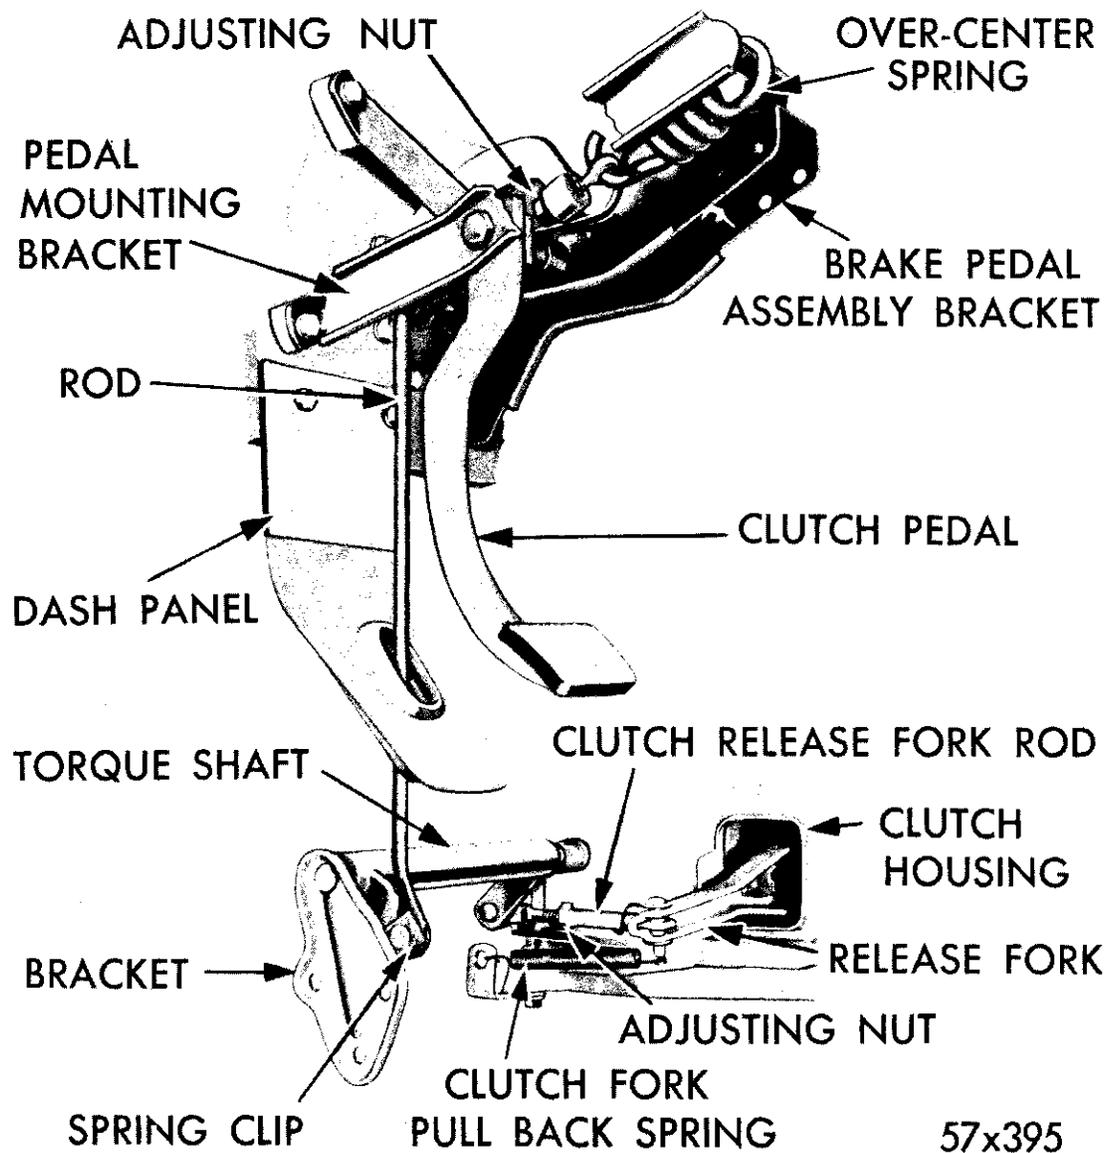
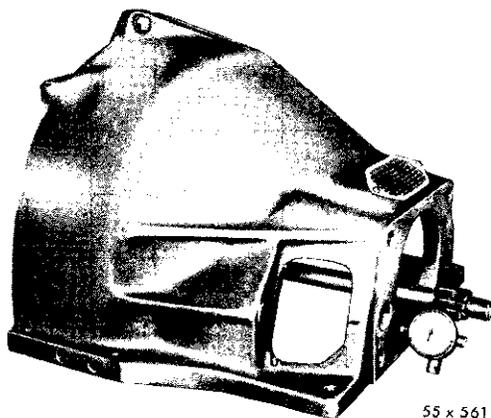
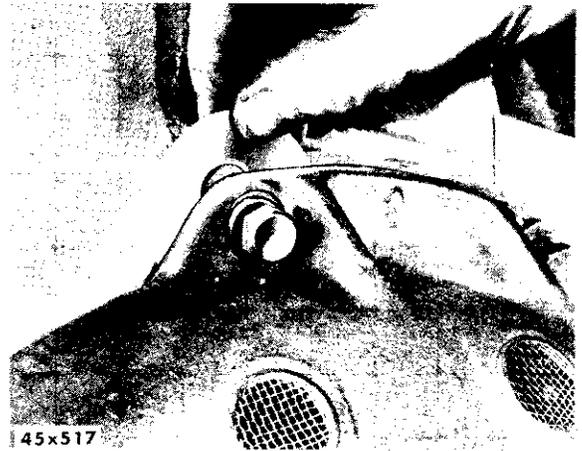

Fig. 1—Suspended Clutch Pedal and Linkage
Fig. 8—Checking Rear Face of Clutch Housing
Fig. 9—Installing Shims between Cylinder Block and Clutch Housing
Clutch pedal free play is movement of clutch pedal before the release bearing contacts the clutch fingers. To compensate for normal clutch wear, adjust the clutch release fork rod, as shown in Figure 1, to obtain $\frac{5}{32}$ inch free play of clutch release fork outer end. This will provide a one inch free pedal movement at the pedal, with a total of six inch pedal travel.
2. OVER-CENTER SPRING ADJUSTMENT (FIG. 1)
3. CLUTCH RELEASE FORK (FIG. 1) a. Removal
Unhook the clutch release fork pull-back spring (Fig. 1). Disconnect the rear end of the clutch release fork rod from the fork by removing the retaining spring and flat washer. Lift out the clevis pin and separate the clutch release fork rod from fork.
4. CLUTCH TORQUE SHAFT AND PIVOT BUSHINGS (FIG. 1)
Install arbor Tool C-870 to the flywheel attaching studs, as shown in Figure 1. Install indicator Tool C-869 so that the point of the indicator contacts bore of housing. The bore of the clutch housing should not vary more than .005 inch. Check the rear face of the housing, as shown in Figure 8. The tolerance must be within .003 inch. Rear face misalignment can be corrected by placing shims of proper thickness between the clutch housing and cylinder block, as shown in Figure 9. If alignment is necessary, remove the dowel pins and tap the housing until it comes within the specified tolerance. Ream new dowel pin holes with Tool C-860 and install oversize dowels. Tighten the housing bolts 50 foot-pounds torque. Failure to align clutch housing may result in hard shifting and jumping out of gear.